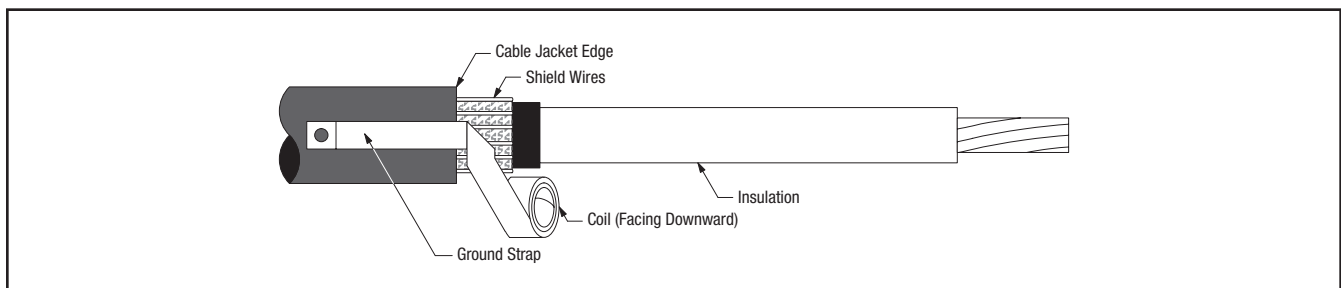

Figure 10
9.2 Lay ground strap along cable with the extended coil facing downward (away from you) (Figure 10).